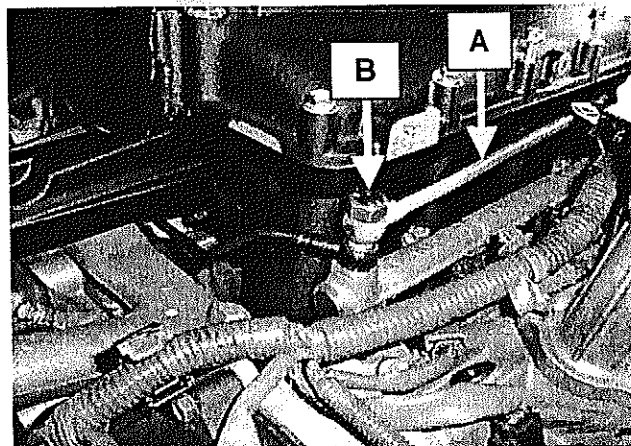

Figure 30
18. Reinstall the auxiliary injector fuel delivery pipe (Arrow A, Figure 30). Starting from the top, the correct order is TRD banjo bolt (Arrow B), gasket, auxiliary injector line, gasket, TRD front fuel pipe, gasket, and finally the factory driver's-side delivery pipe. Leave the TRD banjo bolt finger-tight at this time.